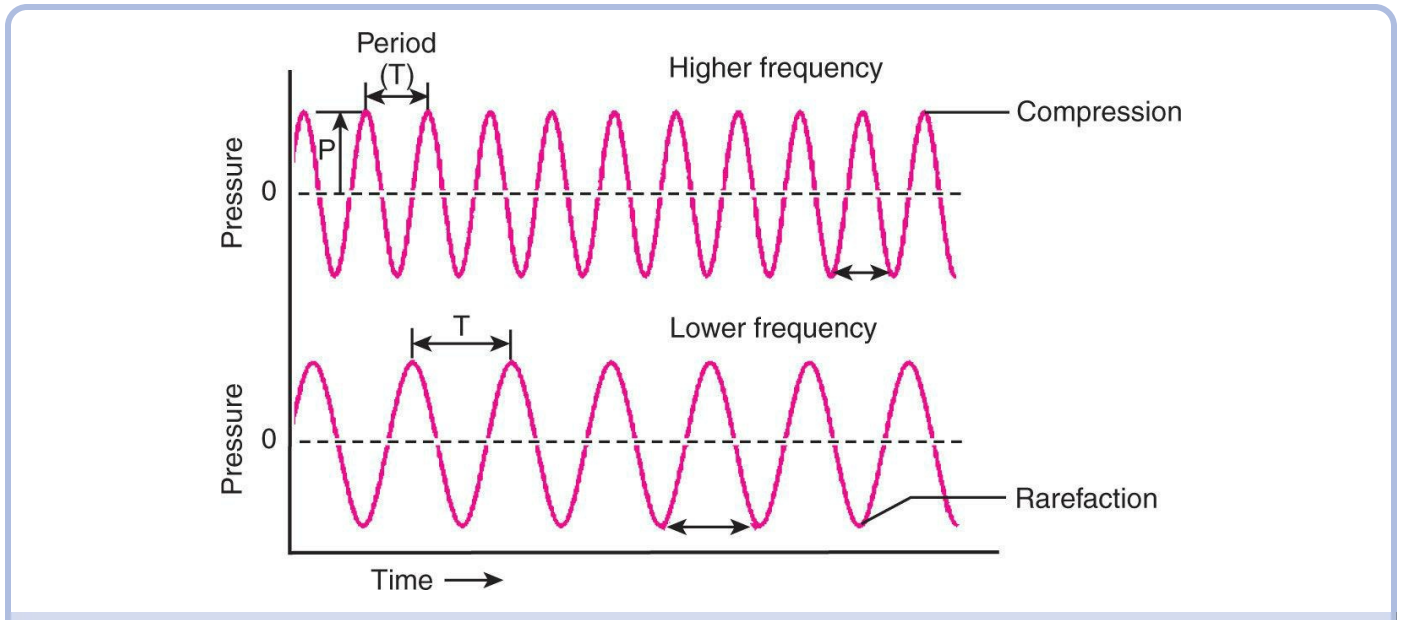

FIGURE 1.5 Ultrasound Physics.
- Frequency and image quality (**Fig. 1.5**)